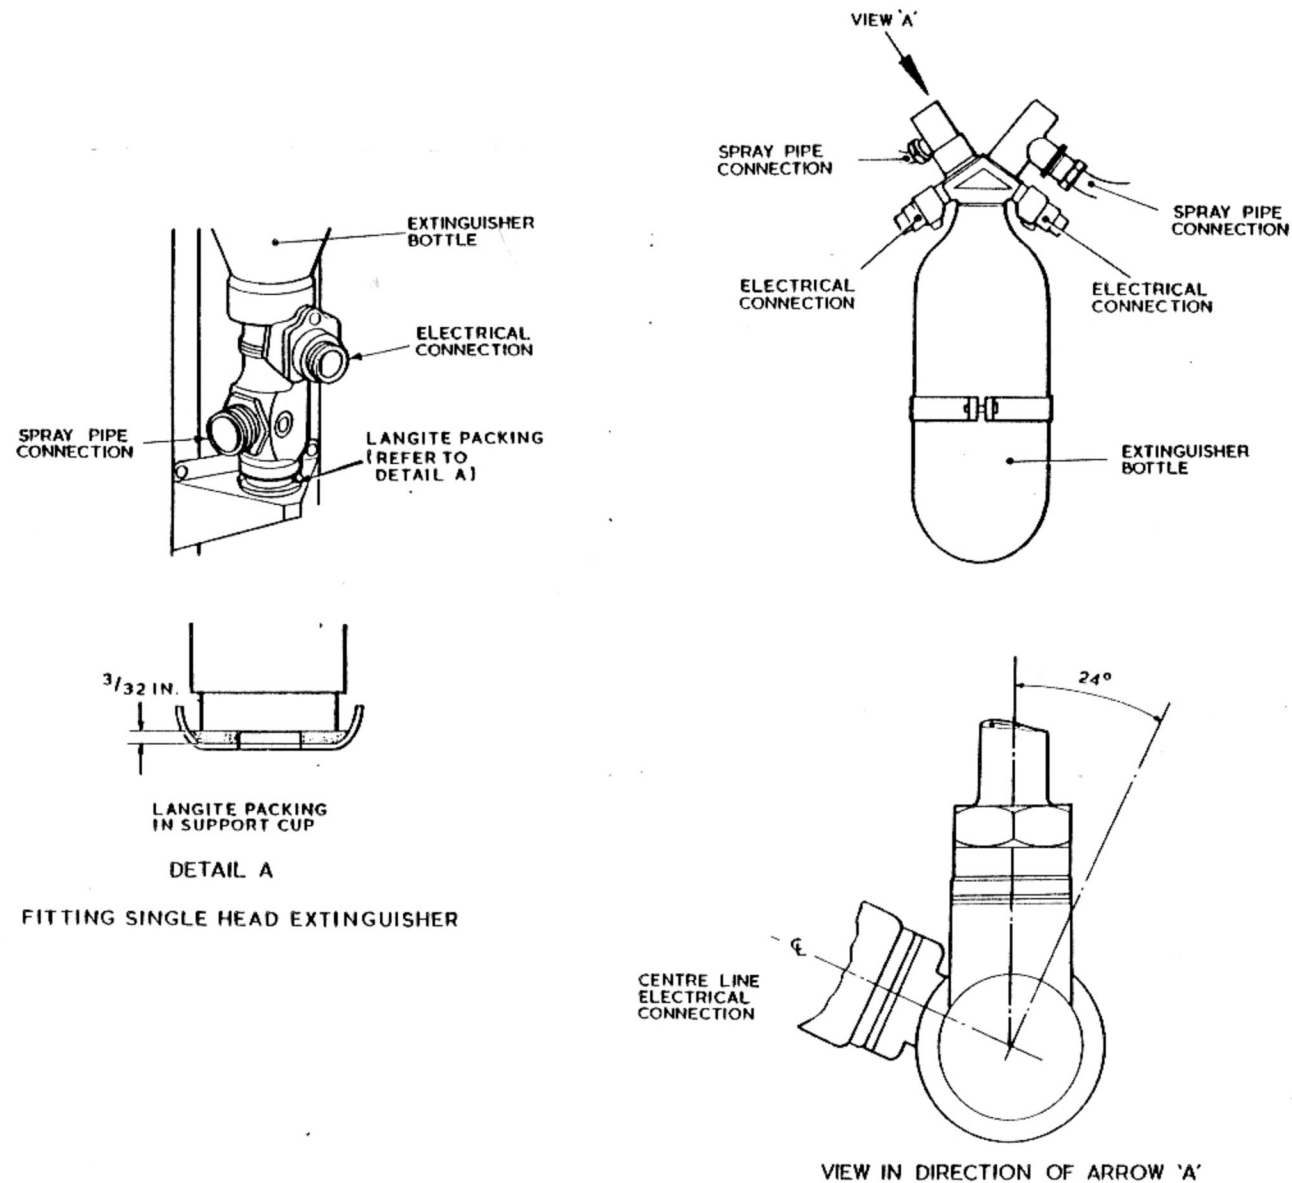

FIG.2. FITTING SINGLE-HEAD EXTINGUISHER AND SETTING DUAL-HEAD JUNCTION BOX
(3) Release the mounting strap and remove the extinguisher from its mounting bracket.
23. Installation of an extinguisher is the reverse of the removal procedure. When assembling a dual head extinguisher into the main plane ensure that both outlets are connected to the appropriate system and that the 4 pin electrical socket is facing inboard (fig.2).
24. When fitting a Type 12A or Type 89A extinguisher, it is essential that the head of the junction box fits securely into the cup of the support disc of the attachment bracket. To ensure that the head of the junction box is correctly housed in the support cup, the thickness of the langite packing in the box of the cup must not be more than 3/32 in. (fig.2), and the extinguisher must be held firmly in position whilst the attachment straps are being fitted and tightened. The following procedure should be adopted:-